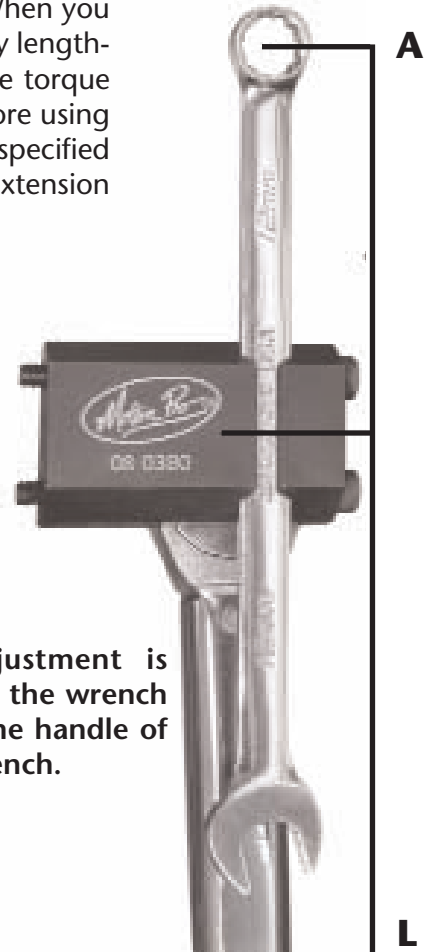

FIGURE 2
If you mount the wrench at a 90° angle to the handle of the torque wrench no calculations or adjustments to the specified torque value is required (see Fig. 1). This means the torque that you want to put on the fastener is equal to the reading from your torque wrench. When you mount the wrench parallel to the handle of the torque wrench, it effectively lengthens the torque wrench (see Fig. 2). Therefore, the torque value set on the torque wrench will not be equal to the torque that you apply to the fastener. Before using the Adjustable Torque Wrench Adapter, you must recalculate the torque specified in the service manual. To recalculate your torque use the torque adapter extension formula on page 2.
- L** = Torque wrench length. This is the length of your torque wrench--center of grip to center of drive (see Fig. 2 on page 1). Refer to the instructions that came with your torque wrench to determine how to measure this length.
- A** = Extension length (see Fig. 2 on page 1).